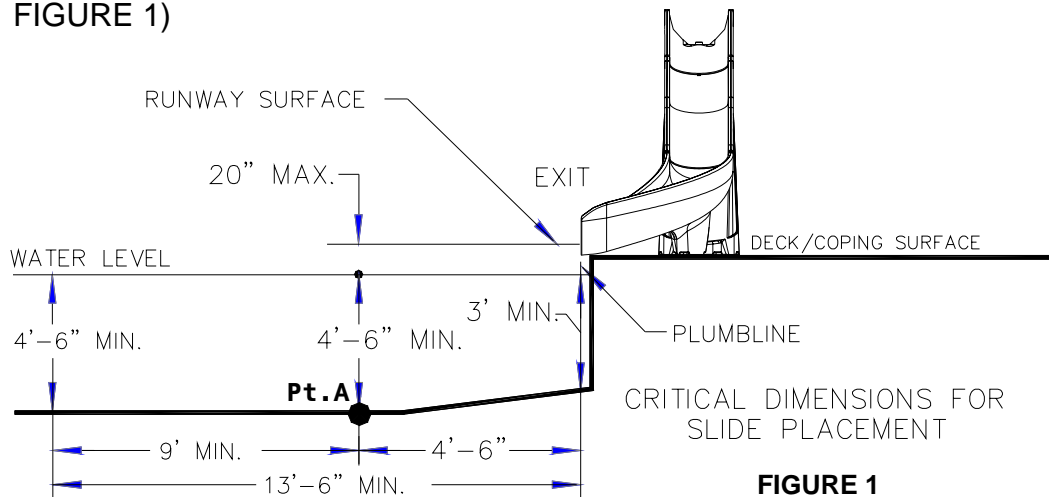

FIGURE 1
All drawings in this Slide Owner's Manual (FIGURES 1 through 6) are for illustration purposes only and are NOT TO SCALE.
1. The critical dimensions for placement of the slide are as shown in FIGURES 1 and 2.
- A. The slide exit runway surface shall not exceed twenty inches (20") above the water surface. (See FIGURE 1)
- C. The minimum depth of water below the exit lip of the slide shall be three feet (3') and increases to four feet six inches (4'-6") at Pt. A which is a distance of four feet six inches (4'-6") from the exit lip of the slide. (See FIGURE 1)
- D. A minimum depth of four feet six inches (4'-6") shall be maintained at a distance of nine feet (9') along the extended centerline of the slide from Pt. A. (see FIGURE 1)